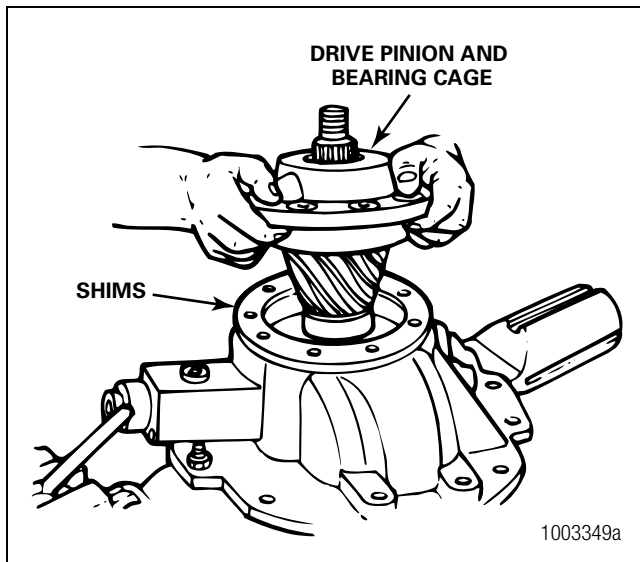

Figure 3.25
- If the bearing cage is tight in the carrier:** Hit the bearing cage at several points around the flange area with a leather, plastic or rubber mallet. Figure 3.25.